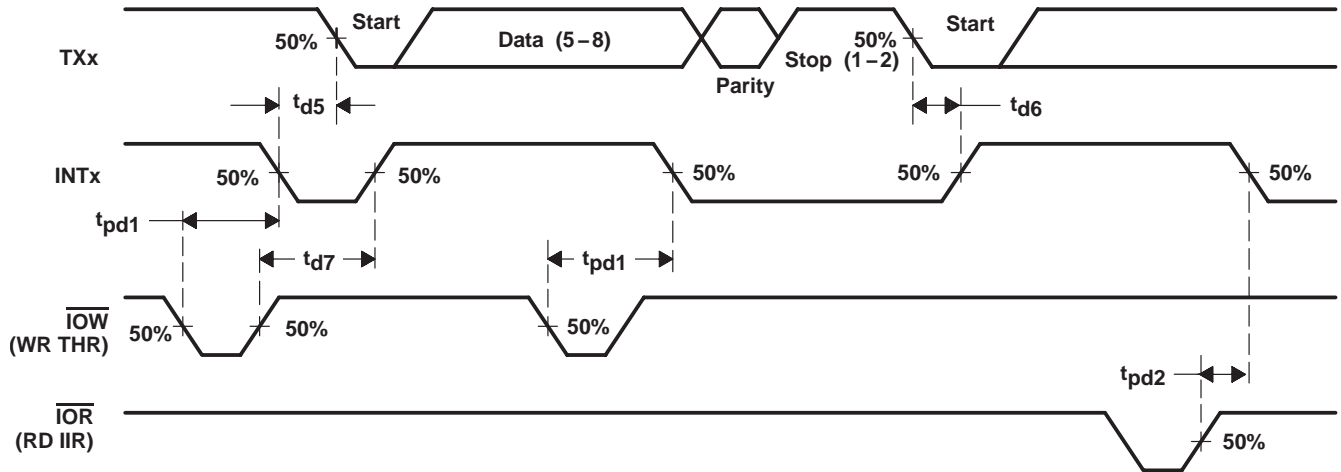

Figure 6. Transmitter Timing Waveforms
**transmitter switching characteristics over recommended ranges of operating free-air temperature and supply voltage (see Figures 6, 7, and 8)**